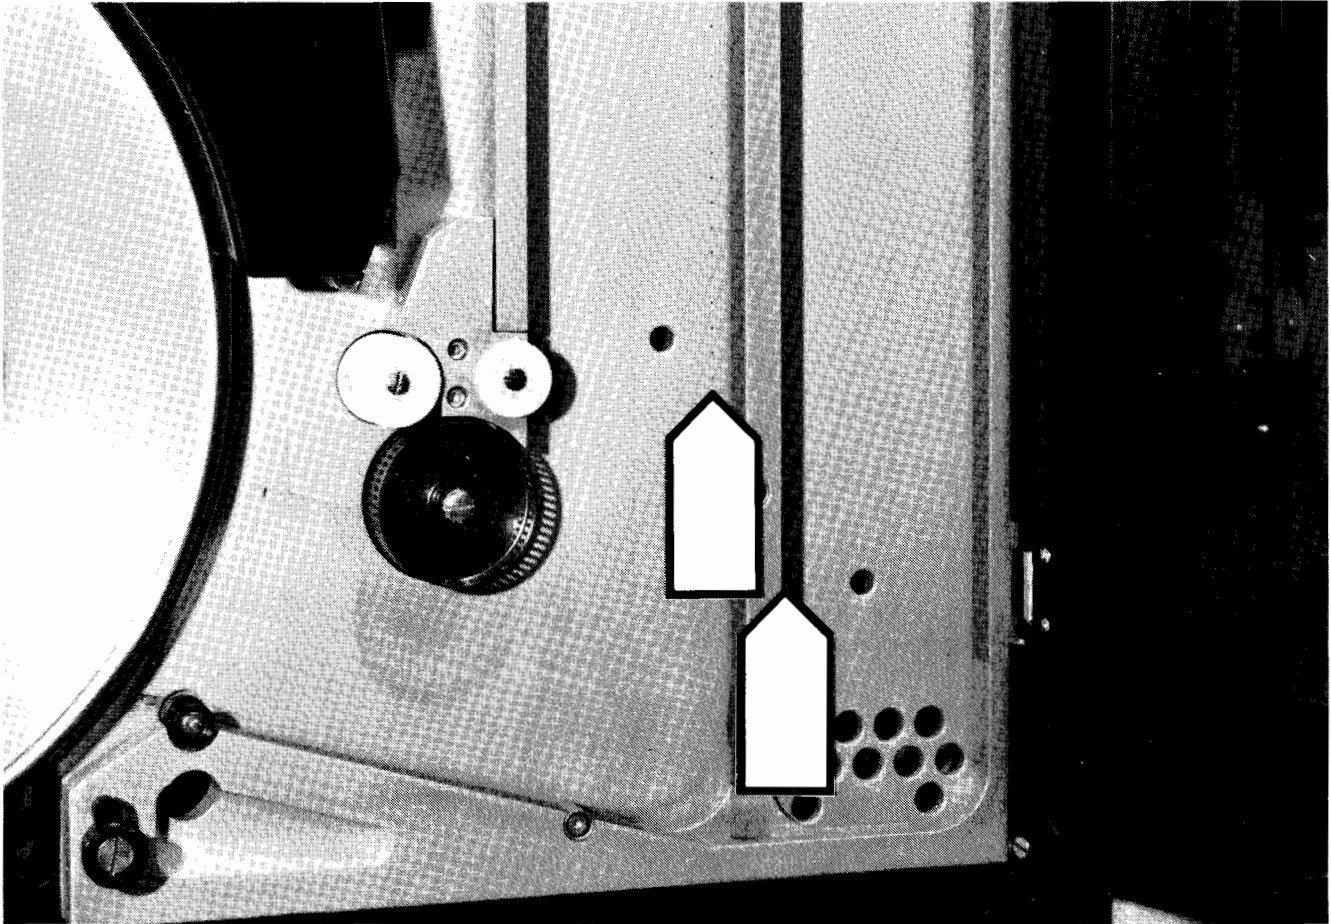

Figure 3-3. Vacuum Column Ports
- d. Clean the vacuum column ports (small holes inside the vacuum columns, see figure 3-3) using a small piece of 30-gauge wire. Moisten the wire with HP Head Cleaner and carefully, insert it into each port. After all ports have been cleaned, clean the column around the ports using a lint-free cloth moistened with HP Head Cleaner and then dry the columns with a lint-free cloth.